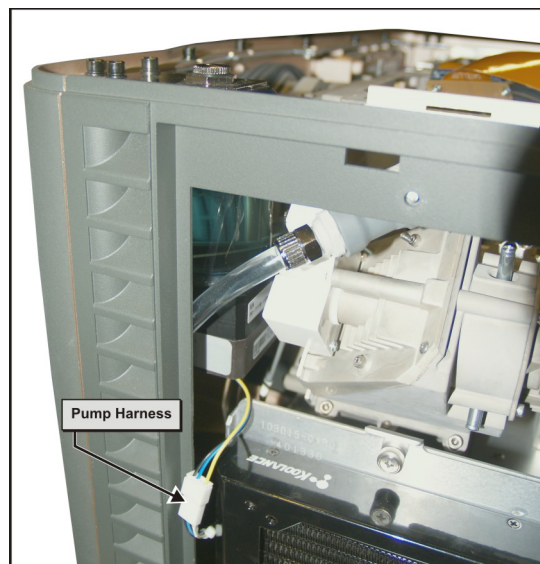

Figure 5-40 Disconnect the Pump Harness
- Disconnect the pump harness (**Figure 5-40**) .